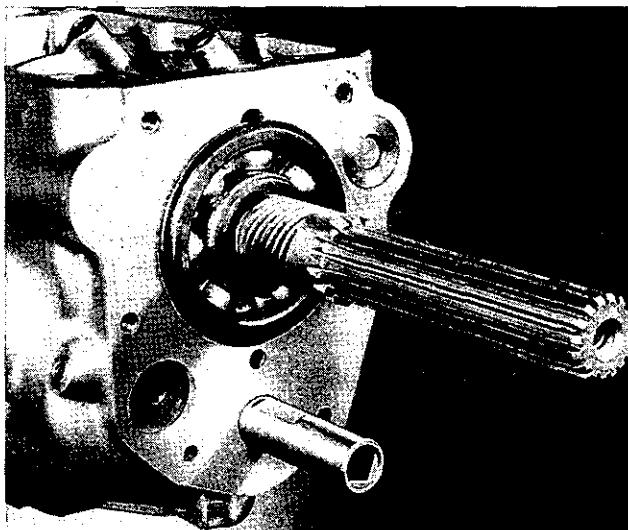
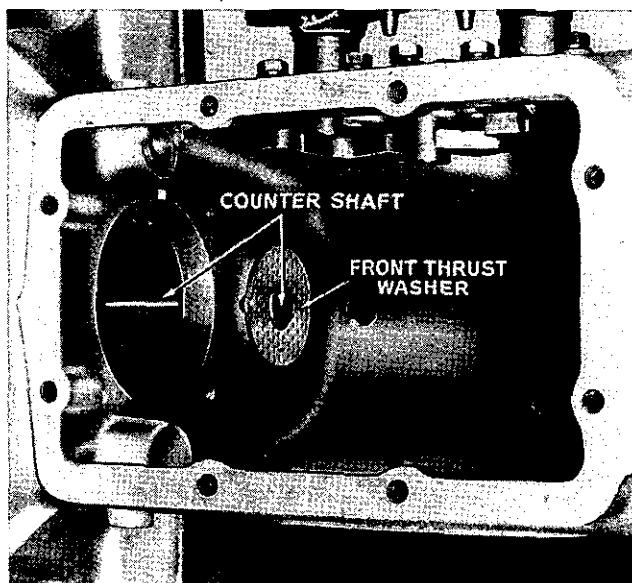
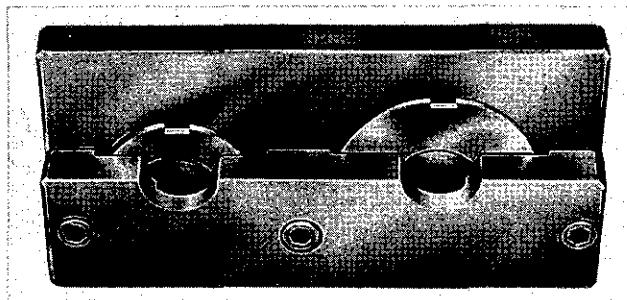

Fig. 5. Needle roller retainer tube—Churchill Tool No. 20SM-77
Fig. 15. Positioning front thrust washer with countershaft
Fig. 16. Gauging countershaft thrust washers with Churchill Fixture No. 20SM-82
9. After removal of the countershaft front cover plate which is secured by two wired setscrews and spring washers ($\frac{1}{16}$ " A/F spanner) drive out the countershaft, with a suitable tube, as shown in Fig. 5 to retain the 48 needle rollers in position, maintaining contact throughout between the tube and countershaft.
7. Having fitted rollers, apply retainer, as shown in Fig. 5, and after locating the front thrust washers with the countershaft (Fig. 15) and the smaller one with grease—position the assembly in the casing. Before fitting new thrust washers gauge these as shown in Fig. 16. The correct end float for the countershaft gears should be between .006"—.010". If there is insufficient end float, the distance collar should be reduced as necessary by rubbing this down on a piece of emery cloth placed on a surface plate. Where too much end float exists new thrust washers and/or distance piece should be fitted.